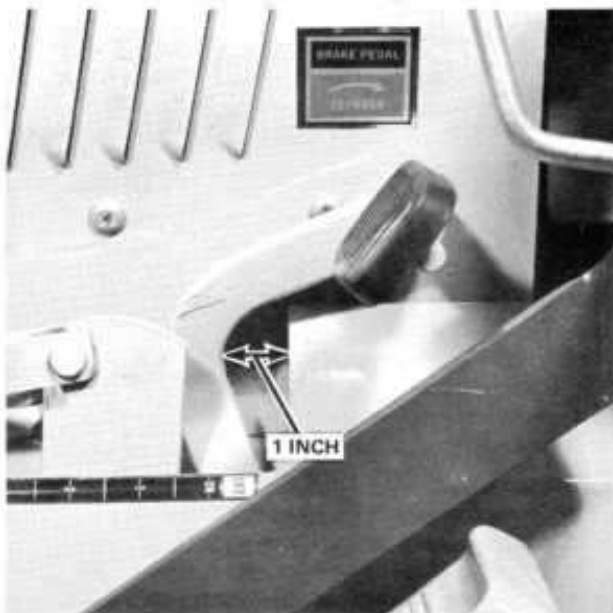

Figure 18A
1. Measure the distance between the front of the brake arm and the cutout of the tractor skirt; this should be 1 inch when brake is latched. See Figure 18A. If this dimension is not 1 inch, loosen the two hex head capscrews holding the latch bracket to the tractor frame. Slide bracket either forward or backward to achieve the 1 inch dimension. Securely retighten capscrews after adjustment is achieved.